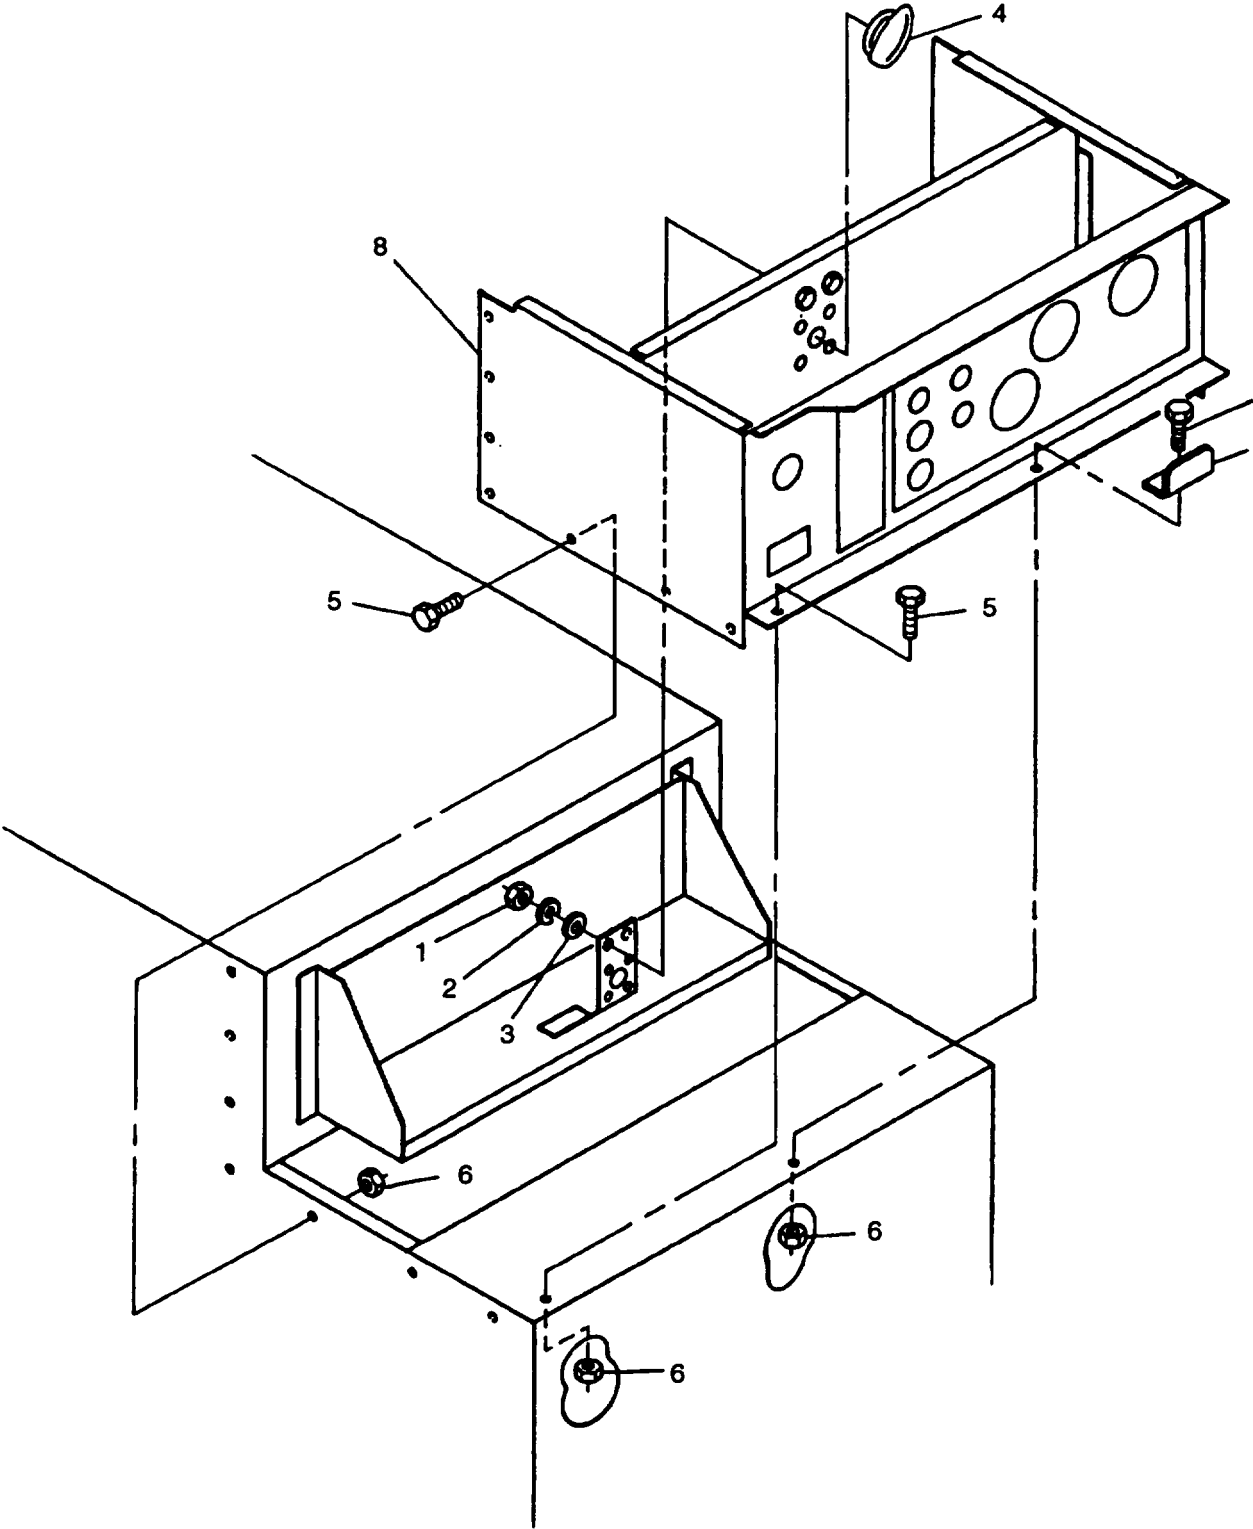

FIGURE 2-10. Control Box Assembly
- e. Remove nuts (1, FIGURE 2-10), lockwashers (2), washers (3), and voltage reconnection switch knob (4).
- f. Remove bolts (5), nuts (6), and door striker (7).
- g. Remove control box assembly (8).
- a. Install control box assembly (8, FIGURE 2-10) and door striker (7) and secure with bolts (5), and nuts (6).
- b. Install voltage reconnection switch knob (4), washers (3), lockwashers (2), and nuts (1).